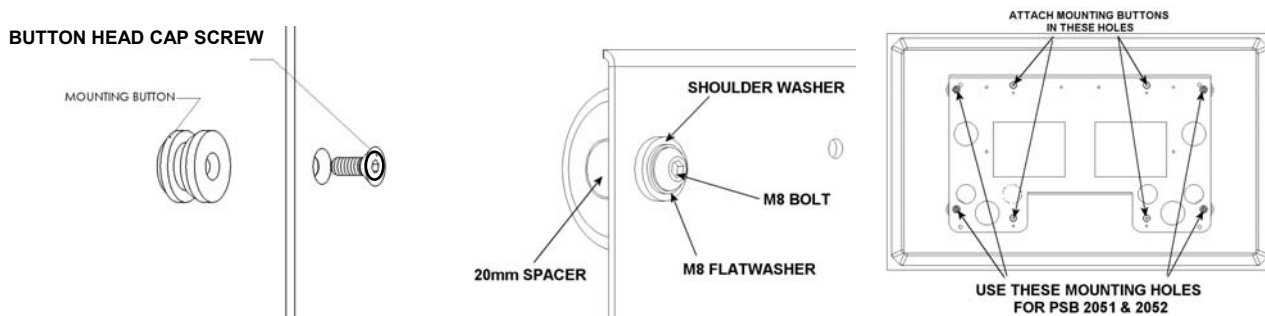

Figure 2
1. Using a 10-24 button head cap screw inserted from the square hole side of bracket, secure mounting button, with chamfered hole of mounting button (larger surface) facing bracket, to bracket (four places). See Figure 2.
2. Place four 20 mm spacers on display over mounting threads in display (see Figure 2).
3. Place display bracket on display (see Figure 2) with bent lip towards the display, place shoulder washers into mounting holes and place M8 flat washers on top of shoulder washer (see Figure 2).